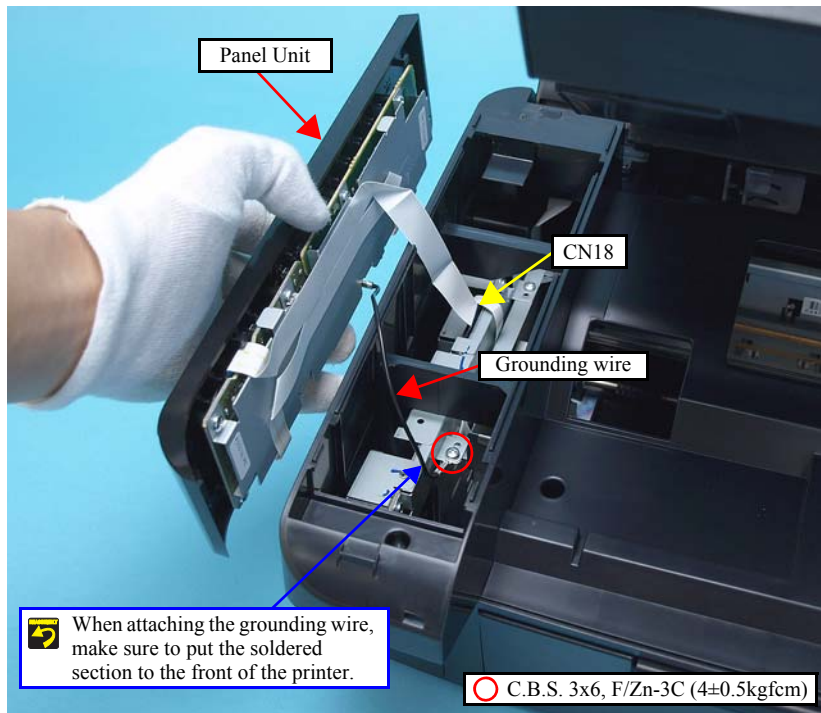

Figure 4-147. Removing the Panel Unit (2)
- When attaching the grounding wire, make sure to put the soldered section to the front of the printer, and secure it with the screw. (See Figure 4-147.)